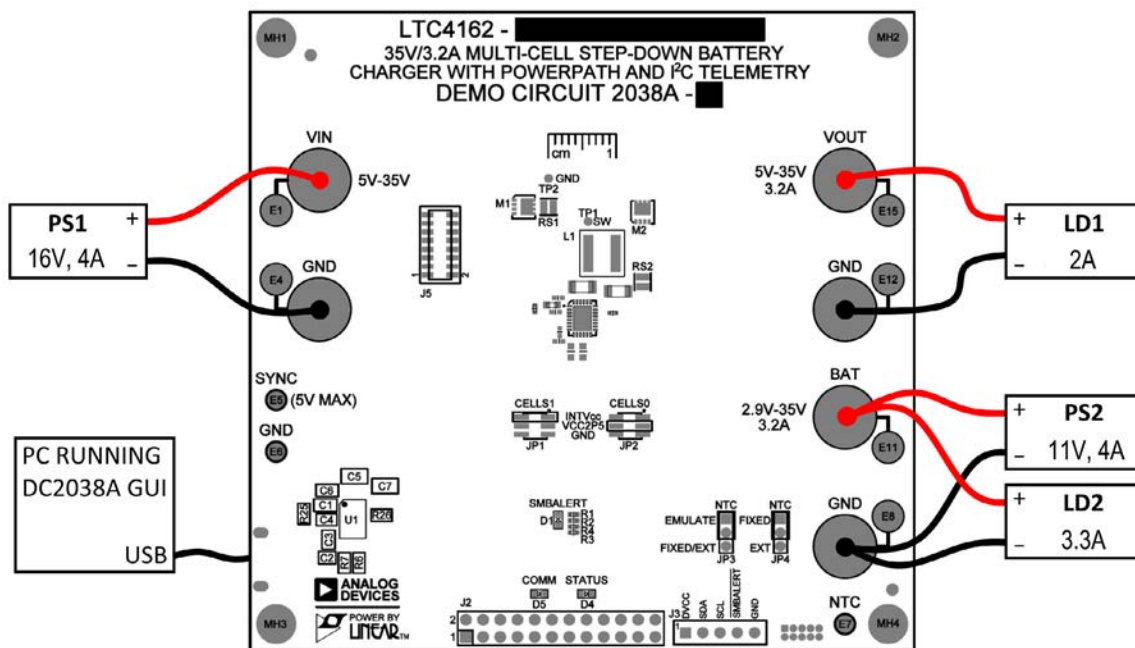

Figure 1. Quick Start Setup for the DC2038A Demo Board
Refer to Figure 1 for the proper measurement equipment setup and jumper settings. Please follow the procedure below to familiarize yourself with the DC2038A.
- Configure the test equipment as shown in Figure 1. Leave the power supplies and loads in standby mode. Plug the Micro-B connector on DC2038A into a PC.
- Enable PS2 and LD2. Within a few seconds, observe on the GUI that the battery is charging at 3.2A. The charger is operating in constant current (CC) mode.